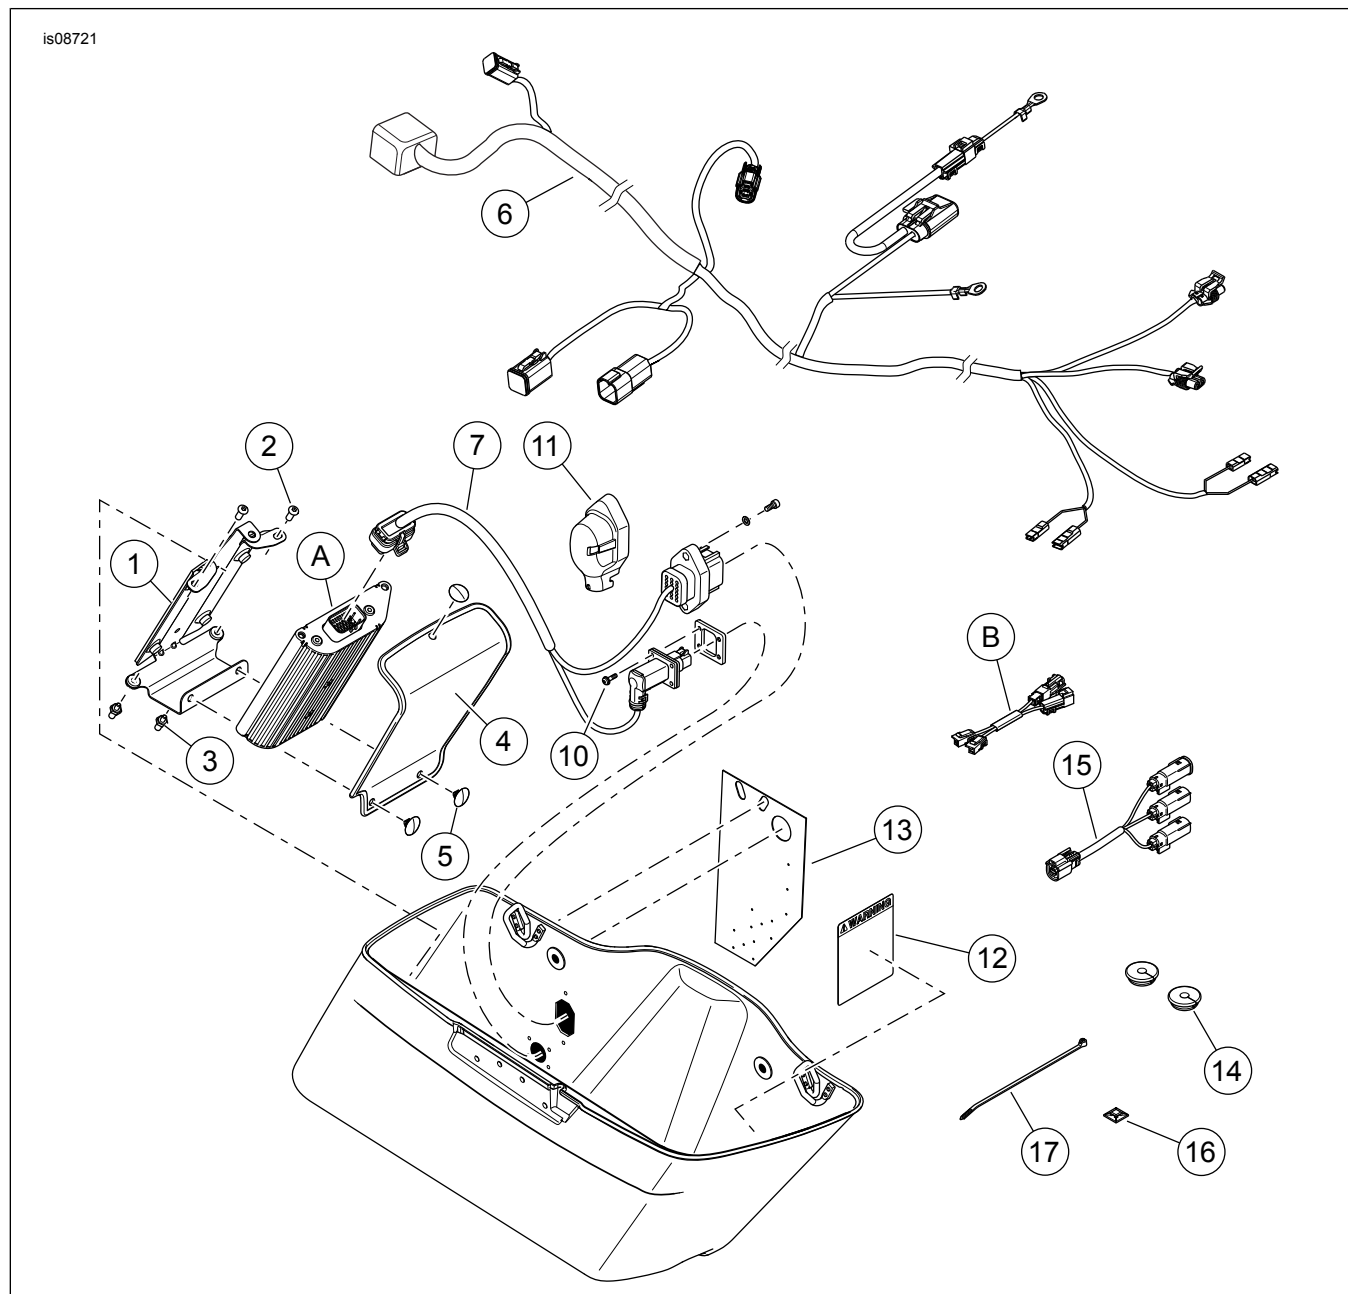

Figure 14. Service Parts, Amplifier Installation Kit For Boom! Audio Fairing Lower Speakers
5. See Figure 14. Attach the **new** saddlebag capacity label (12) over the existing label in the right saddlebag. Note the revised load limit for the right saddlebag due to the amplifier installation.